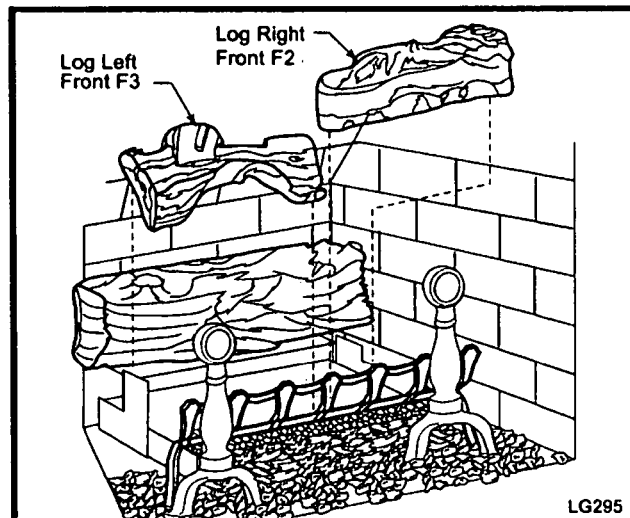

Fig. 45 Place logs left front and right front.
7. Hold the log front left with the narrower end toward the right. For DVT44, set the log on the inside left side of the fettle and bring it forward until the right end of the log comes through the opening in the fettle. For the DVT38, the log is placed the same, however the end will not come through the fettle. When in place, the left end of the log is supported above the left sheet metal bracket. DVT38, the log will just touch the left side refractory. (Fig. 45)
8. Hold the log right front with the pointed end toward the left. Set the log on the inside right side of the fettle and bring forward. The pointed end of the log should come in contact with the front left log. When in place, the right end of the log is supported above the sheet metal bracket toward the right. (Fig. 45)